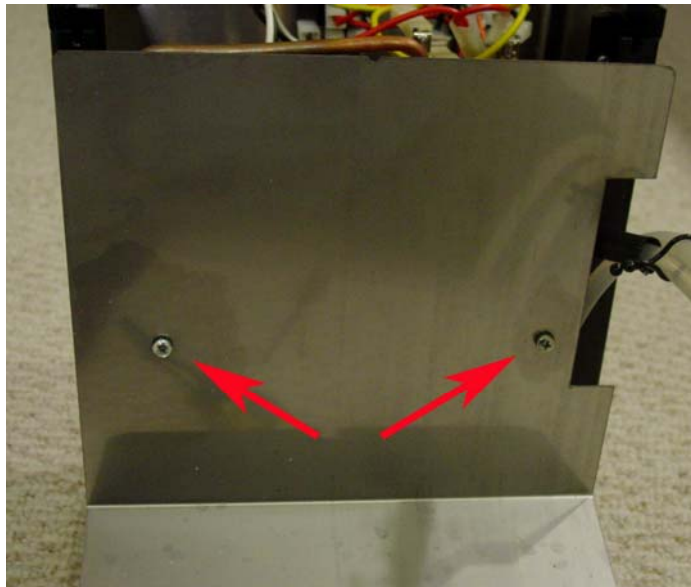

Figure 15. Screws that hold the protecting panel for the pump.
- 2) Remove the protecting panel for the pump after removing the two screws indicated in Figure 15.